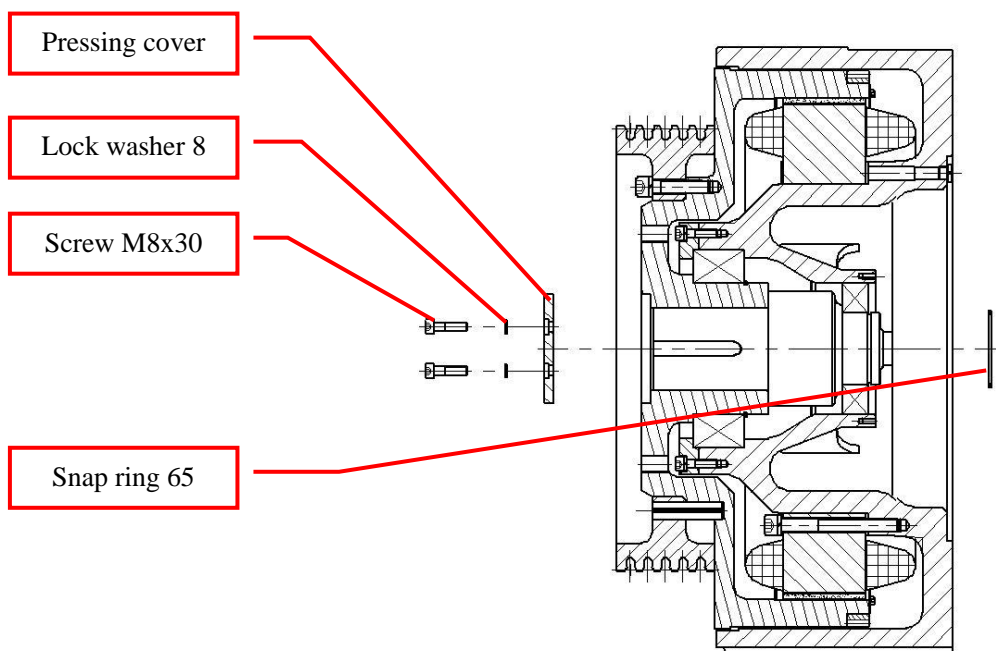

Figure 69: Install pressing cover and retainer ring
7. Remove the guide sleeve and lifting fixture. Install the pressing cover onto the end face of the sheave and secure it with screws M8×30 and lock washers 8, and then install the snap ring 65 into the retainer ring groove. See Figure 69.